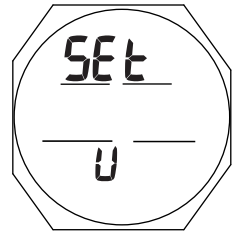

Fig. 45 - SET U LEAD-IN
**Set U (Utilities) Lead-in**, information includes (Fig. 45):